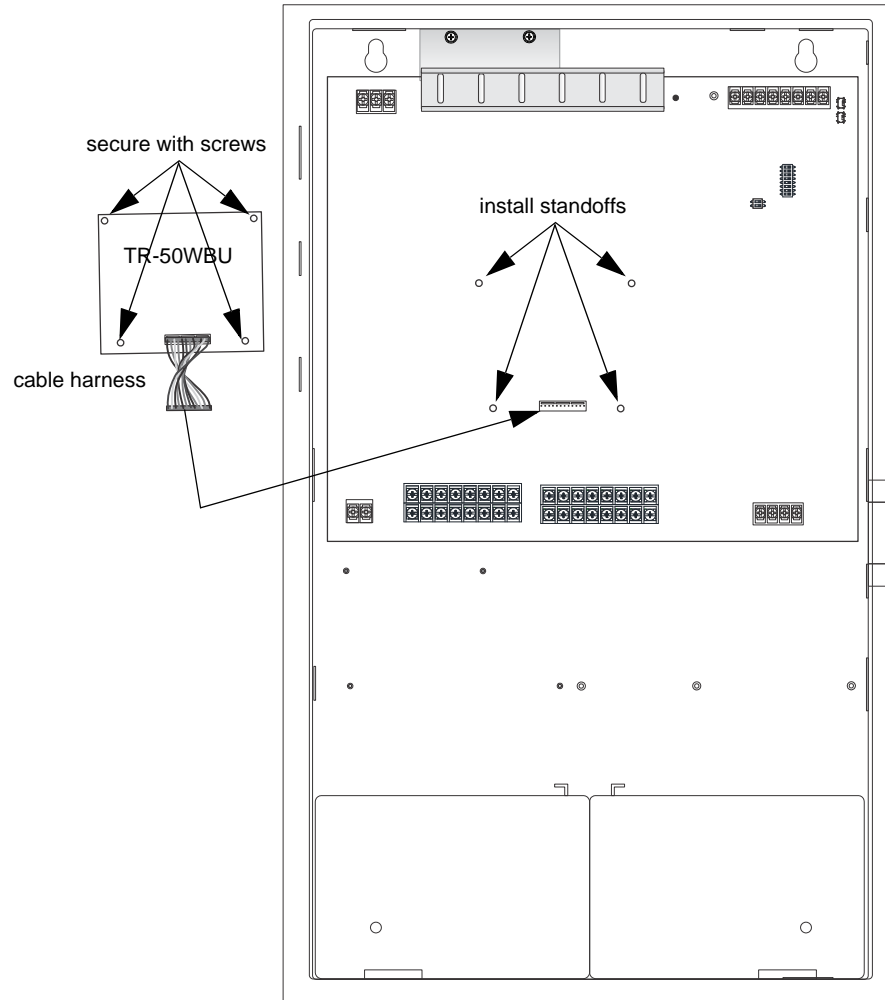

Figure 4.48 Mounting the TR-50WBU
2. Secure the four standoffs supplied with the TR-DUAL50W to the board as shown in Figure 4.48.